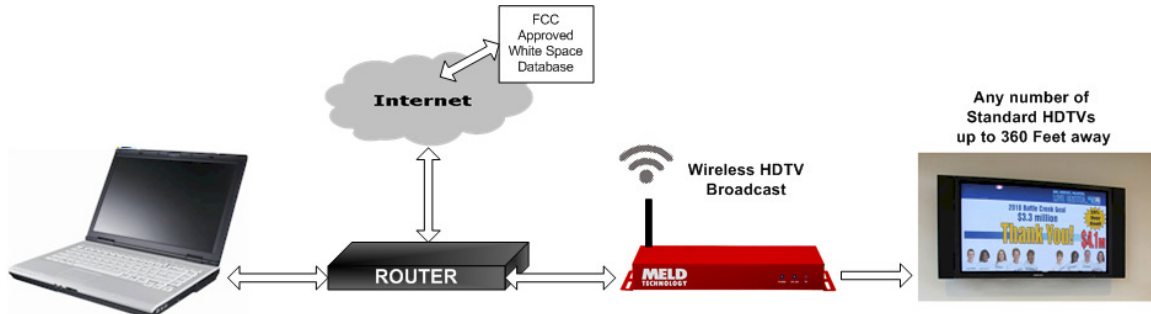
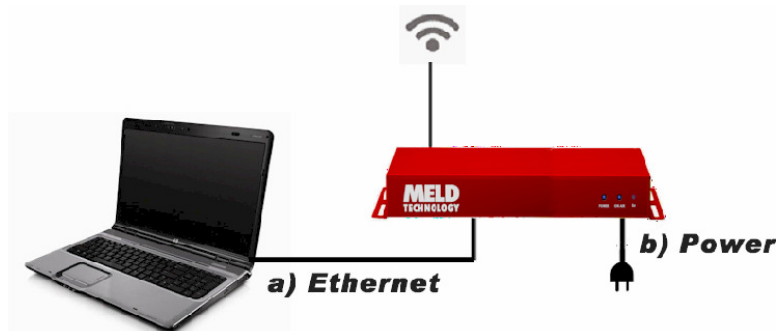

Figure 1 - Typical Setup for Device configuration and TVWS access
Figure 2 – Alternative setup for device configuration
Use of the setup in figure 1 and configuring the router LAN IP address set to 192.168.1.254 will allow access to the White Space database for registration. Set the computers network setting in figure 1 to DHCP to acquire an address from the router.
The MT300 is shipped with the factory default network settings above. To change the default network settings to be compatible with your network addressing scheme use the setup in Figure 1 or use the alternative setup below in figure 2 to change the MT300 network configuration.
If using the typical setup in Figure 1, connect a PC and the MT300 to the router and set the computers IP Address to a static IP address on the same subnet as the default settings for the MT300 (e.g., 192.168.1.100). The LAN side of the router must be configured for addresses within the 192.168.0.0 subnet.
If using the alternative setup in Figure 2, connect a PC to the MT300 Ethernet port and set the computer’s IP Address to a static IP address on the same subnet as the default settings for the MT300 (e.g., 192.168.1.100).
**Note:** Depending on the changes made to the IP address configuration, the MT300 may no longer be reachable using the figure 1 and 2 recommended IP address configurations.